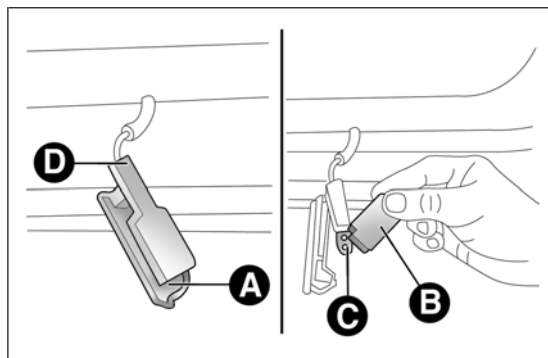

fig. 147
- open the door and remove the roof light by pushing on clip A fig. 147 with a screwdriver;
- press the sides of protection B fig. 147 near the two fixing pins and replace bulb C;